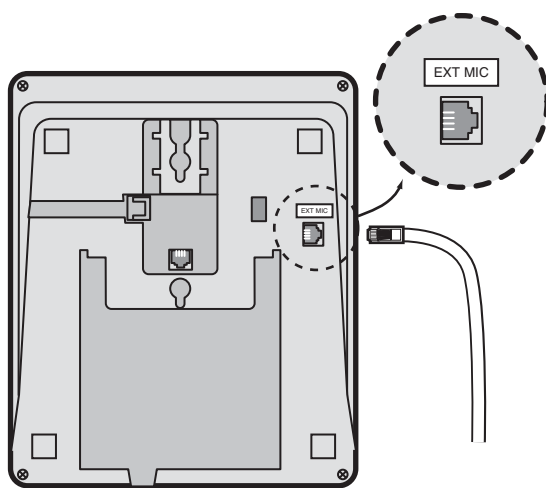

Figure 7-38 RFDM Plug on DKT2020-FDSP
1. Plug in the RFDM External Microphone to the bottom of the phone (see Figures 7-38 and 7-39).